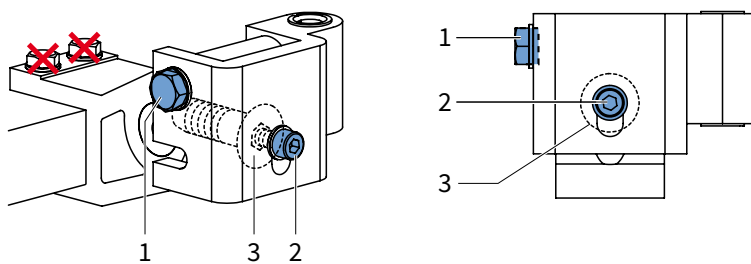

fig. 6.2 Detail left arm-connection
2. Loosen nut #1 with one stroke (wrench 17). Lift the front bar during the twisting, this way the set bolt moves easily. See figure 6.2.